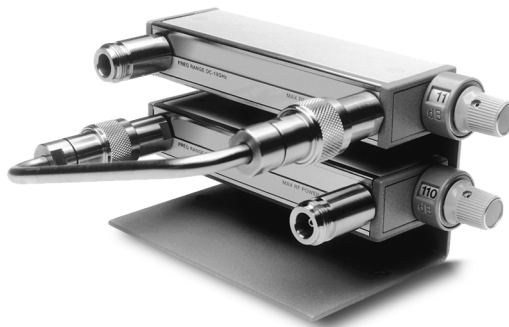

Figure 2-1 Typical installation
- 6 If no sheet metal base is being used, the adhesive-backed felt feet that are supplied may be attached to the underside of the bracket to prevent marring the surface on which the combined attenuators are set. Figure 2-1 shows how the interconnection kit is typically used.